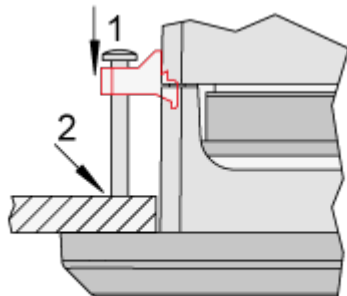

Fig. 15: Tighten clamping screws
Tighten the clamping screws (↪ Fig. 15/1) until the control unit is secured to the control panel (↪ Fig. 15/2). Over tightening of these screws may result in the clamp inserts or the housing breaking. Do not exceed the recommended tightening torque of 0.1 Nm.
The housing is equipped with 8 nut inserts (➡ Fig. 15), which must all be tightened properly to achieve the required degree of protection.
1. ➤ Cut out the panel and drill the holes according to the dimensions in ➡ Fig. 15 (dimensions shown in mm).